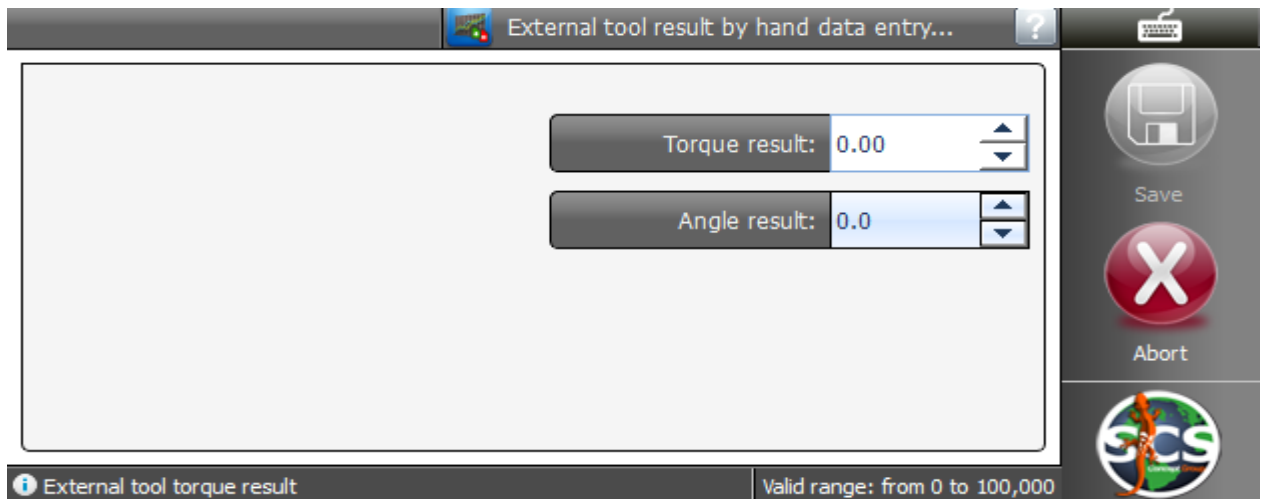
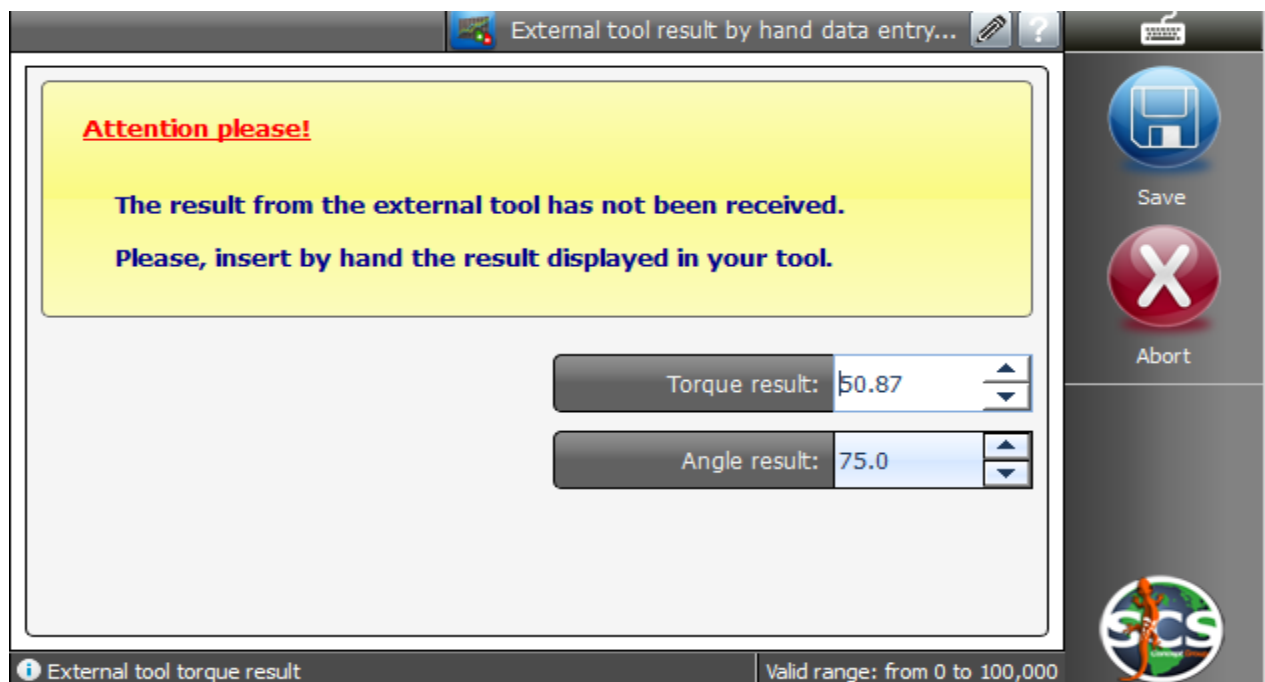

Figure 10
Figure 11
- in the second case, the data entry of the external tool result is managed by a specific user interface of the Data.Pro (See **Figure 10**). The same user interface (but with a warning message) is used when the *ToolTray* utility is not able to read the result of the external tool and the manual data entry is enabled (See **Figure 11**) as specified following where the compared test settings available in the software configuration are explained in detail.